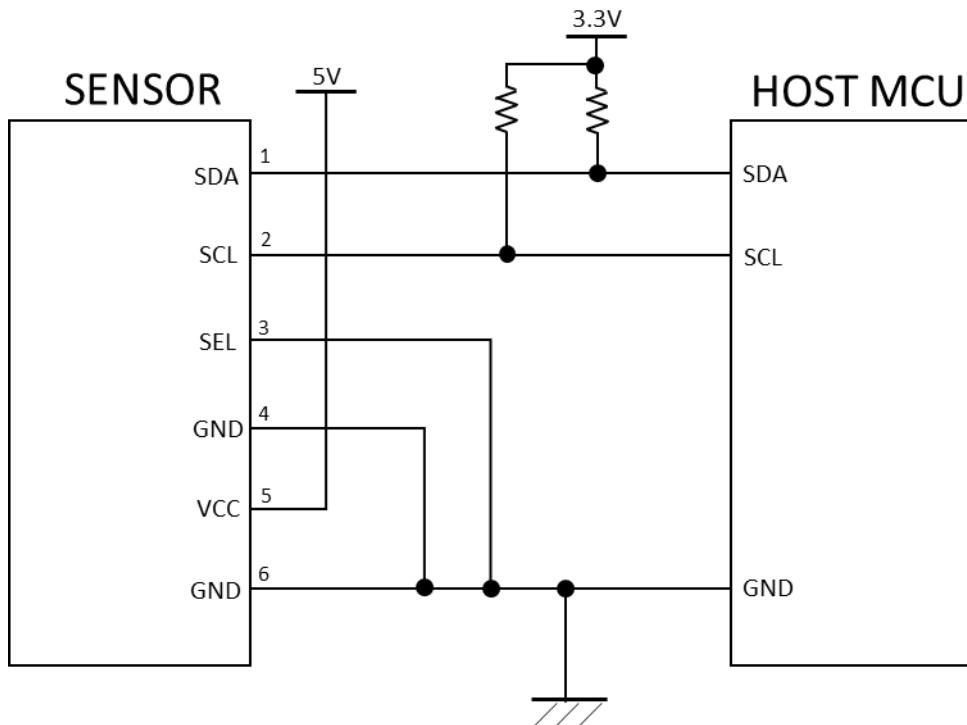

Fig. 7. I2C出力の接続例 (Example connection of I2C output)
- SCL and SDA terminals should be connected to external pull-up resistors (e.g. 10kΩ) as shown in Fig.7 above.